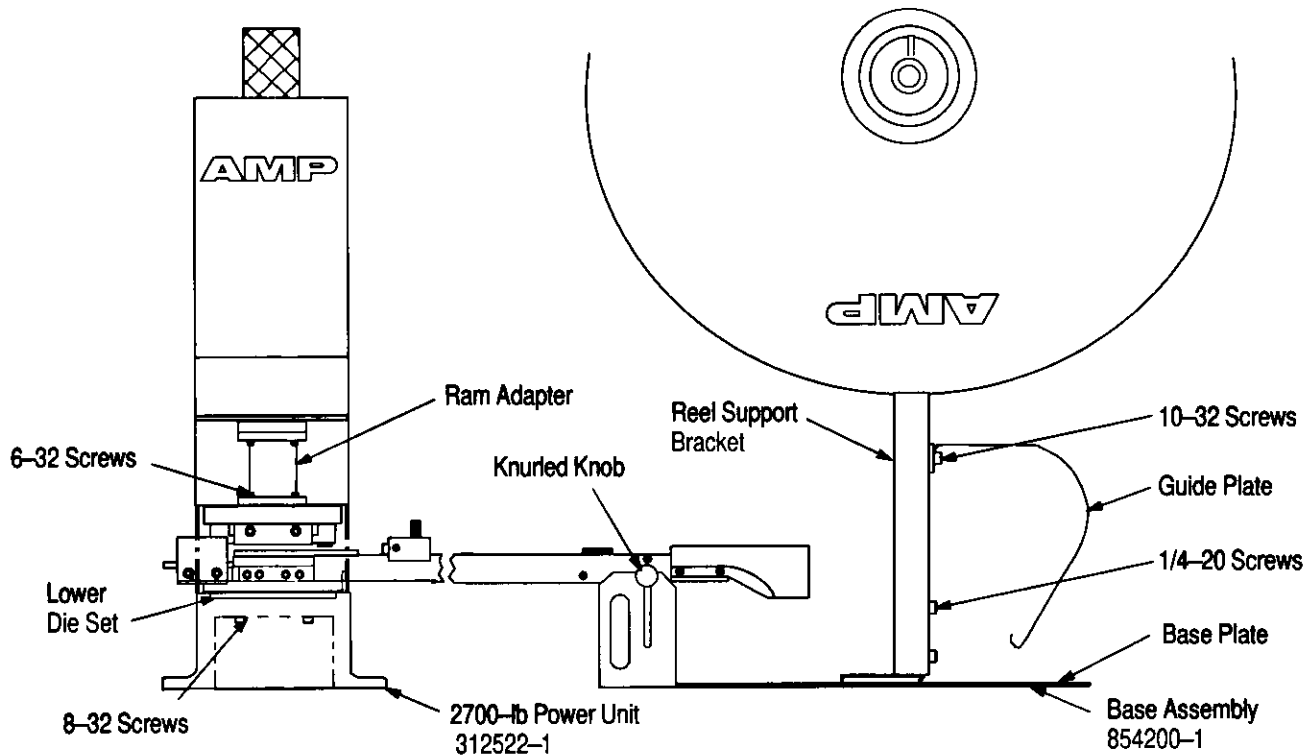

Figure 3
3. SETUP INSTRUCTIONS (Figure 3)